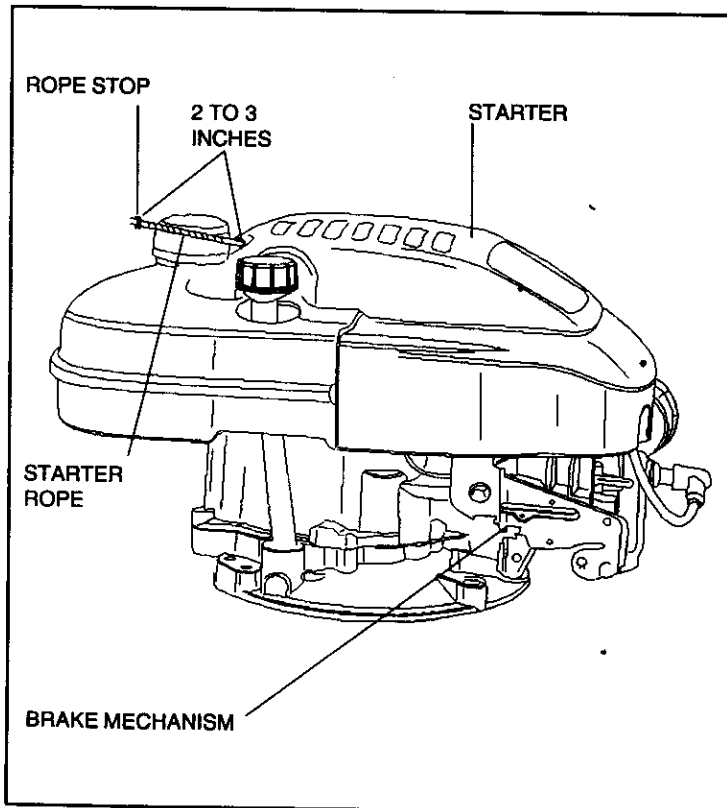
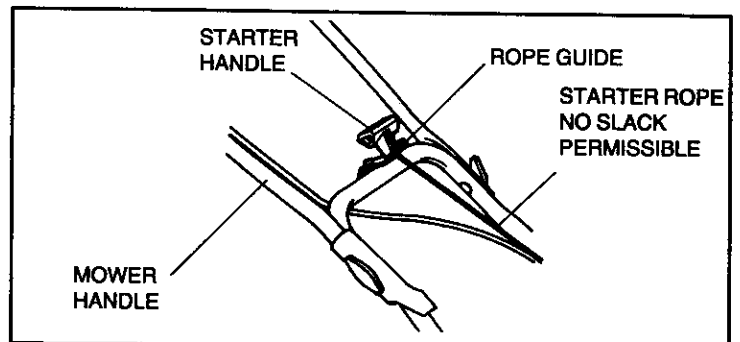

Figure 2
Figure 4
② INSTALL ENGINE BRAKE CABLE AND STARTER ROPE: BRAKE CABLE (see Figure 2):
- C. Slide rope stop (see Figure 2) onto starter rope and feed starter rope through rope guide on mower handle (see Figure 4).
- E. With starter handle resting on rope guide (see Figure 4), check starter rope for slack. If there is any slack, pull more starter rope through starter handle and relocate left hand knot to eliminate slack.
- H. Position rope stop 2 to 3 inches from starter (see Figure 2) and fasten it to starter rope by gripping it with pliers and forcing staple through starter rope until staple is even with outside of rope stop.
③ CHECK OIL LEVEL:
C. Grasp starter handle (see Figure 4) and pull rope out, slowly, until it pulls slightly harder. Let rope rewind slowly. Then pull rope with a rapid full arm stroke. Let rope rewind **SLOWLY**. Do not let starter handle snap back against rope guide (see Figure 4).